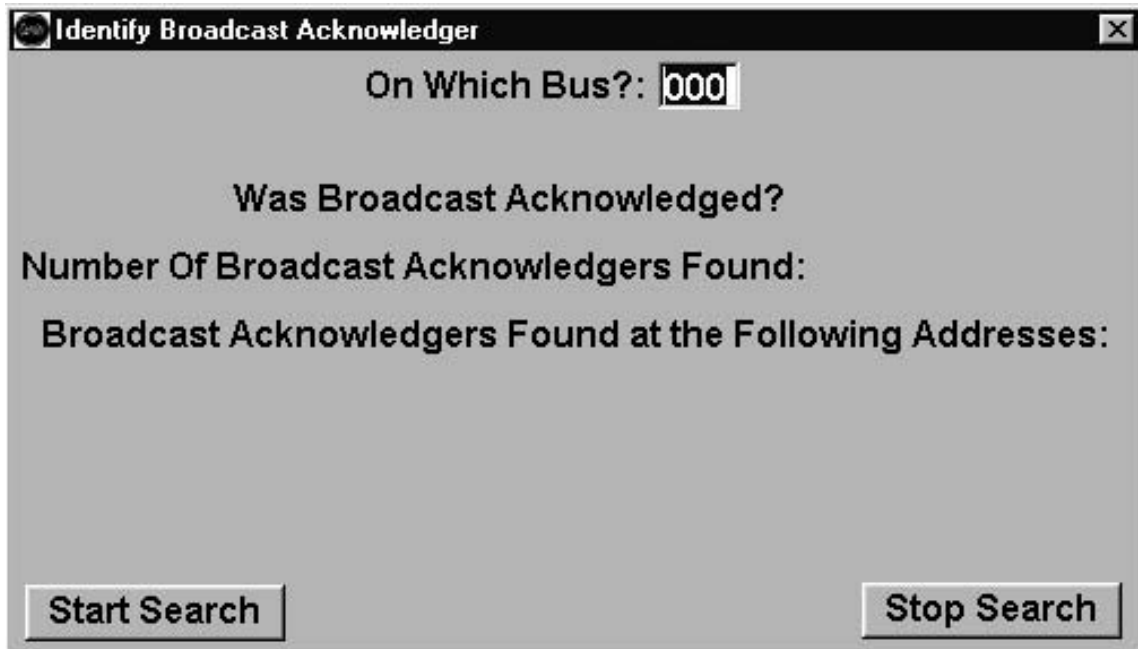

Fig. 20 — Bus Diagnostic Utility Identify Broadcast Acknowledger
**IDENTIFY BROADCAST ACKNOWLEDGER** — The Identify Broadcast Acknowledger Actions menu item or button are used to find broadcast acknowledgers on a specified CCN bus. The desired CCN bus to be searched must be specified. See Fig. 20. The Start Search button is then used to start the process.